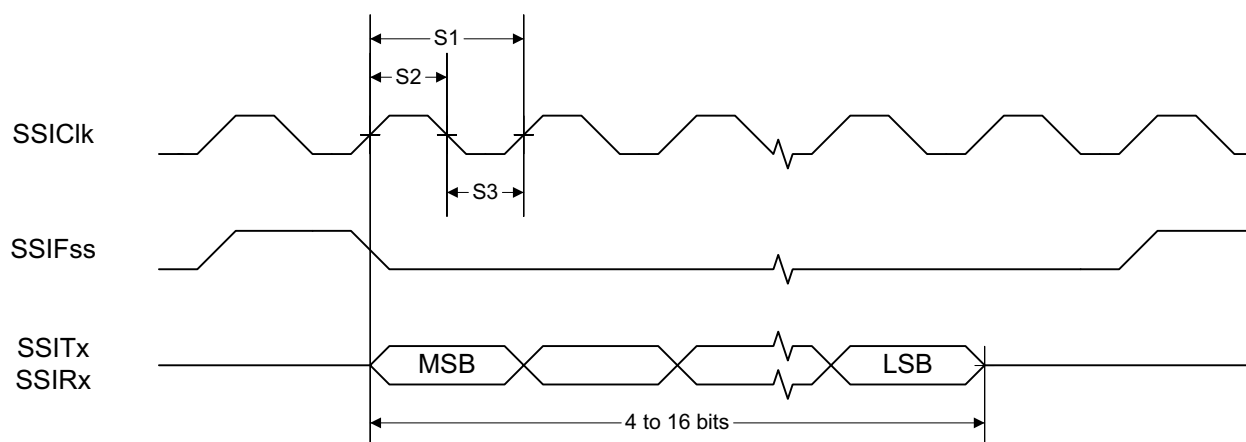
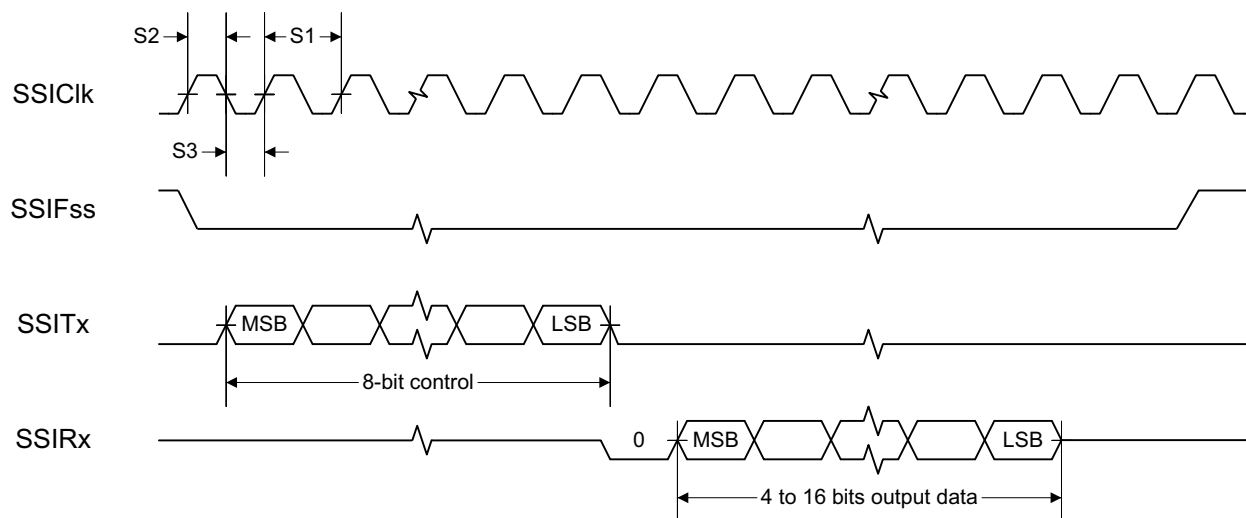
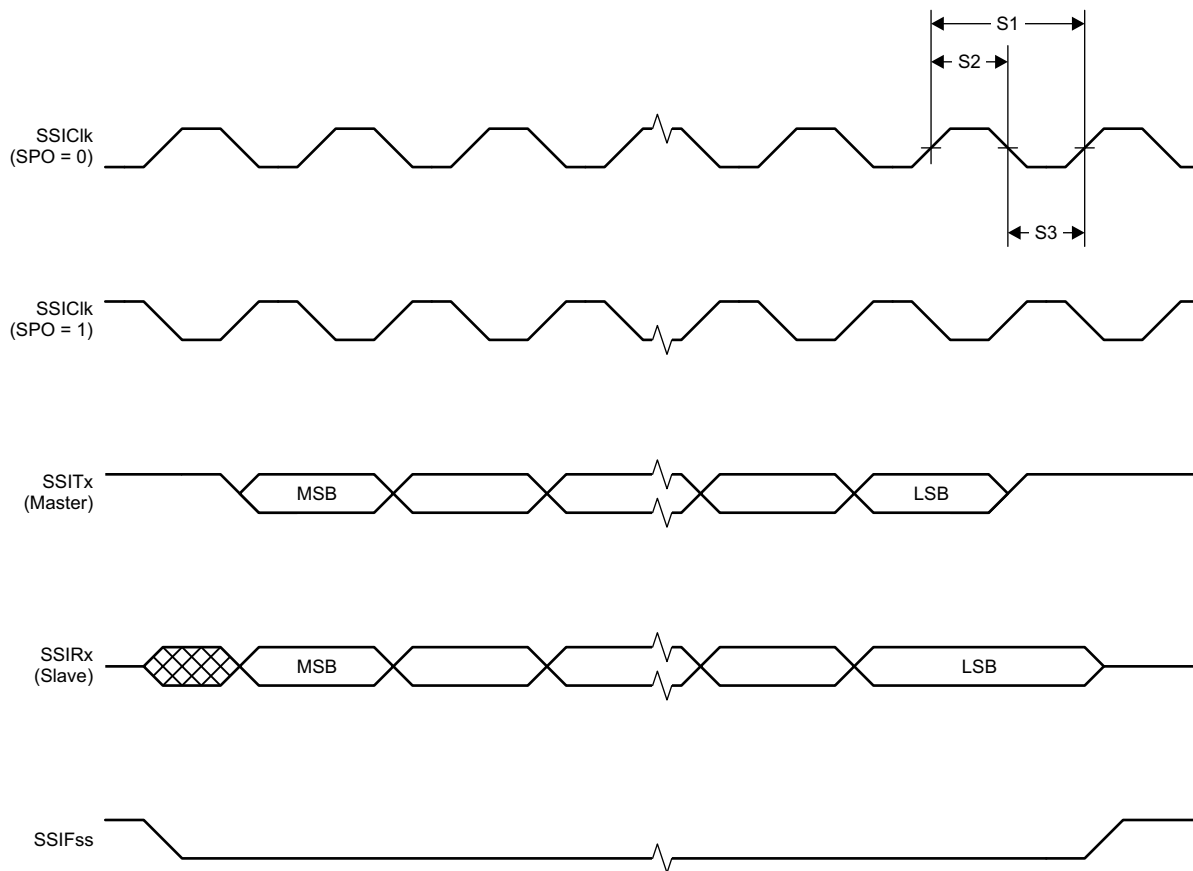

Figure 7-1. SSI Timing for TI Frame Format (FRF = 01), Single Transfer Timing Measurement
Figure 7-2. SSI Timing for MICROWIRE Frame Format (FRF = 10), Single Transfer
Figure 7-3. SSI Timing for SPI Frame Format (FRF = 00), With SPH = 1
(1) Refer to SSI timing diagrams Figure 7-1, Figure 7-2, and Figure 7-3.
(2) When using the TI-provided Power driver, the SSI system clock is always 48 MHz.